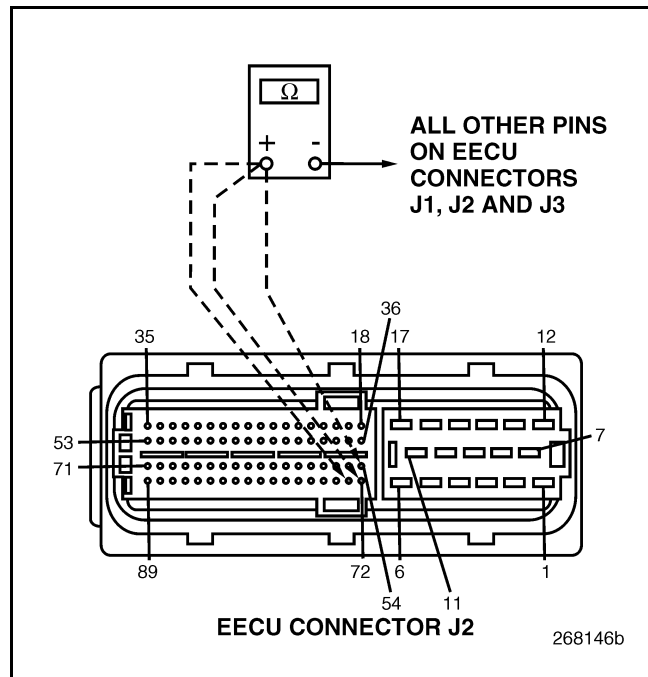

Figure 620
4. Check for continuity between EECU connector J2 pins 54, 72 and 73 versus all other pins on EECU connectors J1, J2 and J3 (see Figure 620).